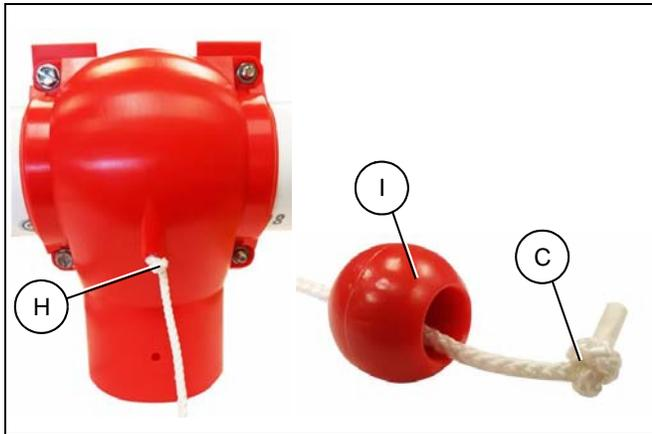

Figure 5S
10. Mark the cord on the opposite side where it enters the guide hole and tie a knot (C). Also, install the red indicator ball (I) at the end of this cord and tie a knot (C). (See Figure 5S.)